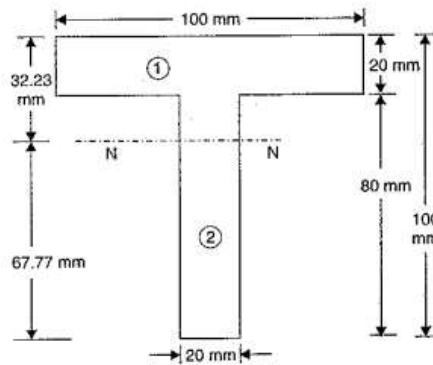

Fig. 5
- (OR)
- b) A cast iron beam is of T-section as shown in Fig. 5. The beam is simply supported on a span of 8 m. The beam carries a uniformly distributed load of 1.5 kN/m length on the entire span. Determine the maximum tensile and maximum compressive stresses. [7]